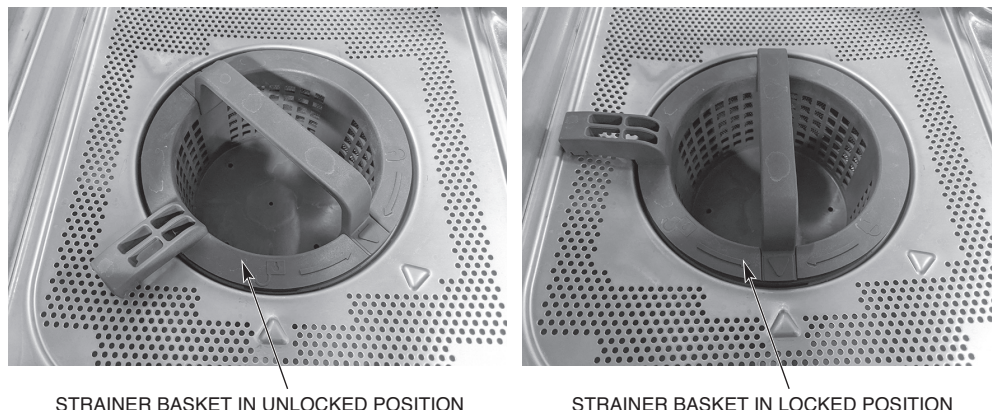

Fig. 13
**NOTE:** When installing the strainer basket, ensure the basket is in the 'locked' position (Fig. 13).